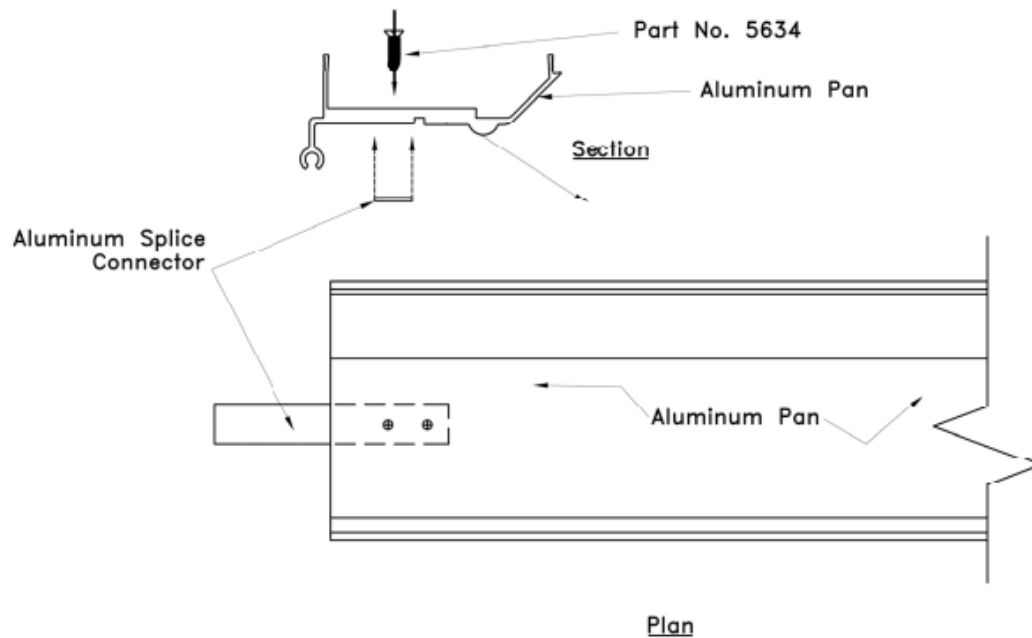

FIGURE 5
5. After aluminum edge frames and seismic-centering bars are installed, start adding butt splice connectors to one end of each aluminum pan using factory holes provides and Part No. 5634 (Screw 1/4" x 1" FTPN). **SEE FIGURE 5**